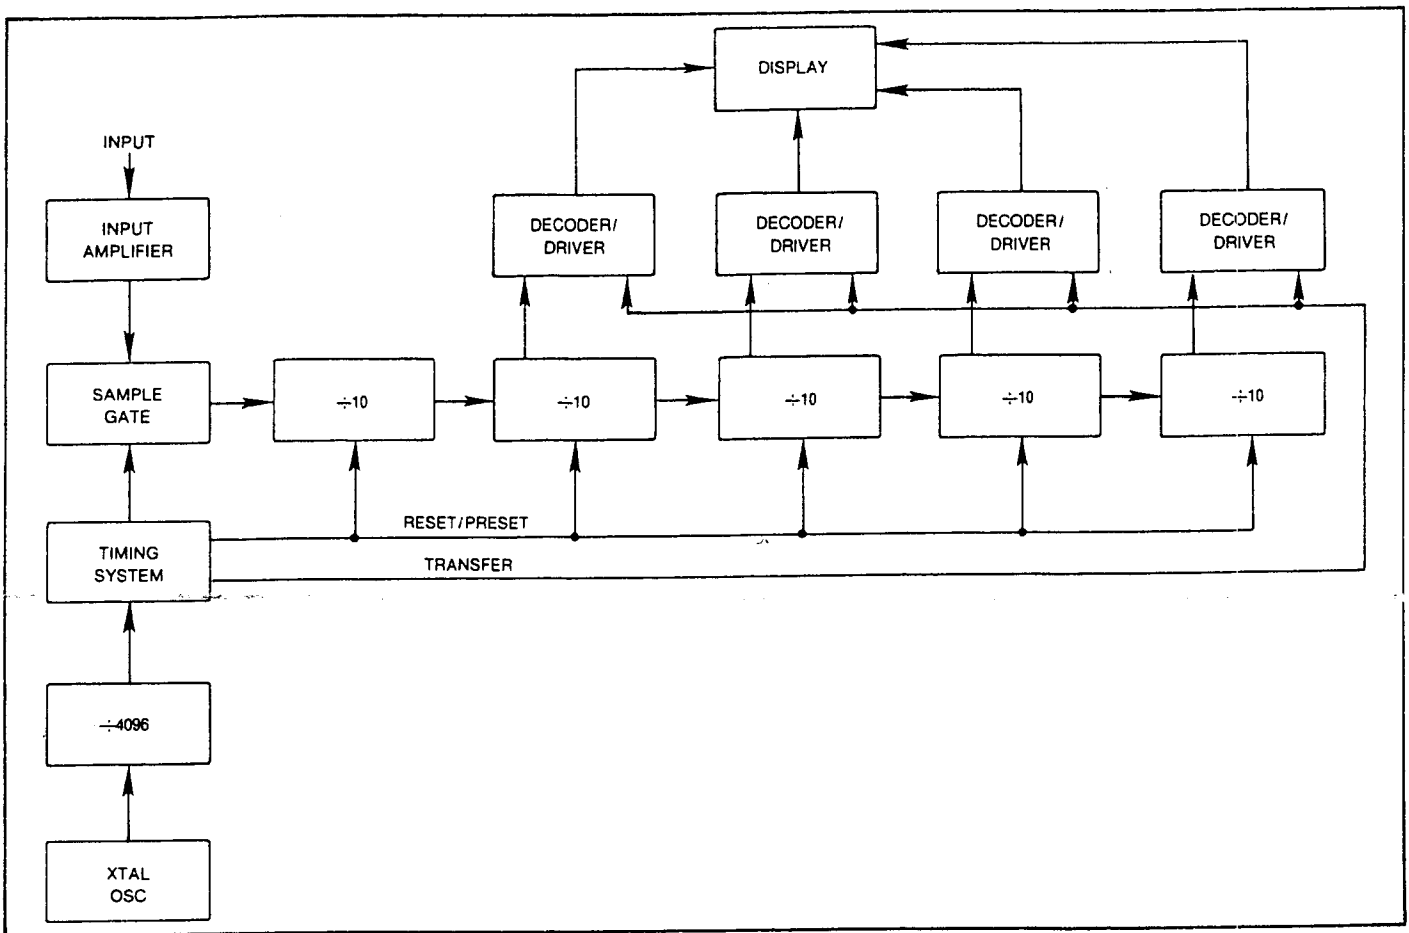
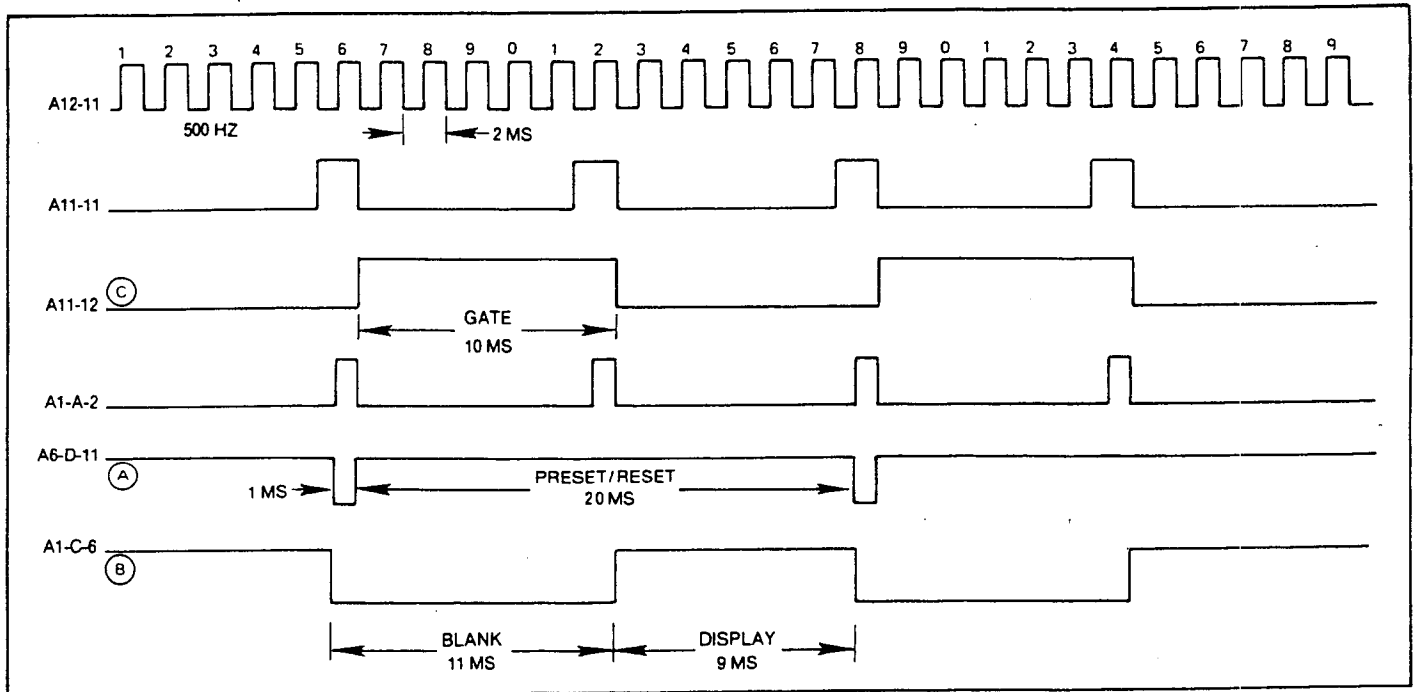

Figure 4-1. Block Diagram, Model FD-1011.
Figure 4-2. Timing System Waveforms.
4-2 This section of the manual describes, in detail, the operation of the amplifiers and logic circuits of the Siltronix FD-1011 Digital Dial. The descriptions are in two parts. The first, supported by the block diagram of Figure 4-1, describes the circuit functionally as a prelude to the more detailed descriptions of the second part which is supported by the logic/schematic diagram of Figure 5-2 and a timing diagram, Figure 4-2. The descriptions herein assume a knowledge on the part of the technician of the operation of digital logic circuits such as NAND gates, inverters, counters, decoder/drivers and seven-segment display devices. The FD-1011 uses many integrated circuit packages, some that contain a multiplicity of identical circuits. The circuits within these packages are not discussed in this text. Only the response of certain outputs which are relative to the discussion of the FD-1011 are detailed. Manufacturer's published data, and other publications readily available to electronics technicians, provide the details of the internal circuits of these devices.
4-4 Refer now to Figure 4-1. When the FD-1011 is connected to a Siltronix Model 1011D transceiver, the output of the transceiver VFO is coupled to the input amplifier of the FD-1011. The sampling gate is enabled for 10 milliseconds by the timing system. The VFO frequency is then divided by a factor of 10 in each of the following decade counters. When the gate is disabled at the end of the sampling period, each of the counters that comprise the division chain will contain a discrete number in BCD code. These numbers as a group are directly related to the input frequency. The most significant figure will be lost and the next most significant figure, plus a count of 5, will be contained in the last counter of the chain and the least significant figure will be in the second counter. The count of 5 that is added is part of the conversion from the VFO frequency to the operating frequency. The operating frequency is the desired display. The addition is further explained in the detailed circuit description.
4-11 The 2.048 MHz signal from the oscillator is divided by a factor of 16 in each of the counters, A12, A13 and A14 for a total division of 4096. The frequency at the output of A12 is 500 Hz. This is further divided by 5 to produce signals A11-11 and A11-12 shown in Figure 4-2.
4-13 The identifications of the timing signals of Figure 4-2 are derived from the IC and terminals of their origins. For example, the 500 Hz clock originates from A12, terminal 11. It is identified as A12-11. Timing signal (A), which is the reset pulse, is generated by first combining the 500 Hz clock with A11-11 in NAND gate A6-A. Referring to Figure 4-2 it is seen that the inputs to A6-A are both high only during the time of each 5th successive clock pulse. This produces a train of 1 millisecond negative pulses at 1/5th the clock rate. This pulse train is then inverted in A1-A and applied to the input of NAND gate A6-D along with a 50 Hz square wave from A1-B which is waveform (C) inverted. The inputs to A6-D are both high only during each second pulse of A1-A-2. This eliminates the intervening pulse and generates waveform (A). Waveform (B) is generated by combining waveform A and the inverted waveform (C), (A1-B-4), in NAND gate A6-C. Waveform (A) goes low for 1 millisecond prior to A1-B-4. This, then,